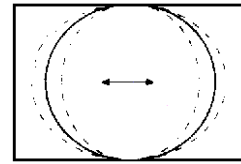

Fig. 1
- d) Adjust the horizontal location to obtain picture centering (Fig.1).